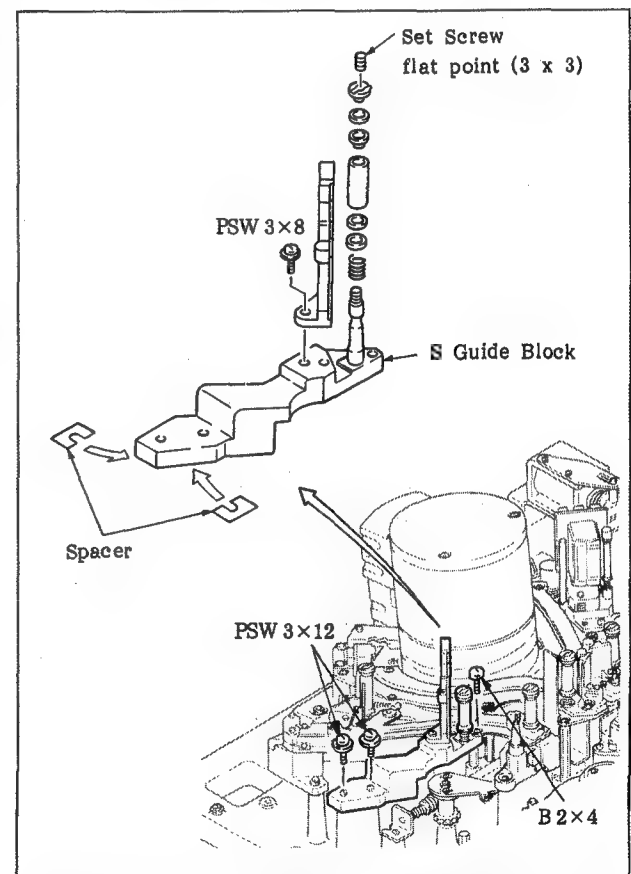
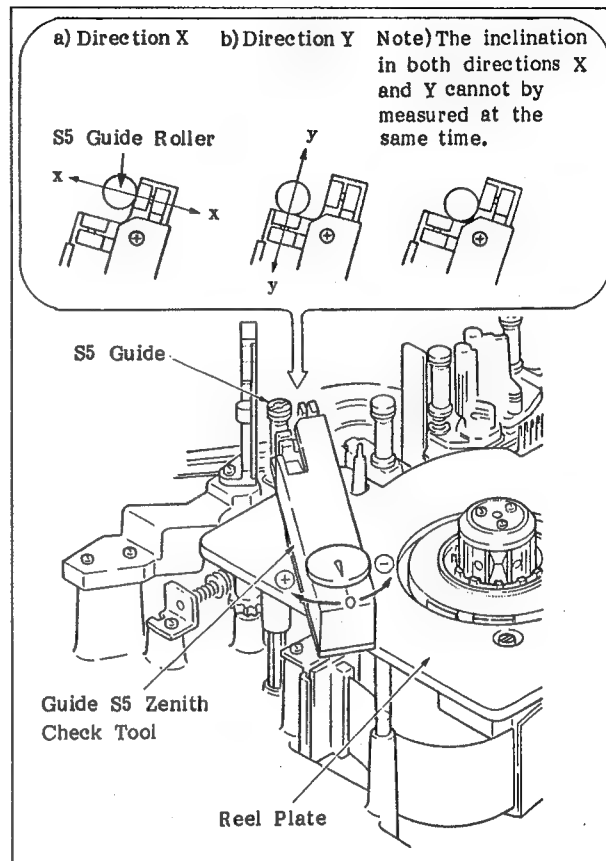

Fig. 6-46-2 Replacement of the S Guide Block
Fig. 6-47 Adjustment of the Inclination of the S5 Guide Roller
3. Replace the S guide block by referring to Figure 6-46-2. (Replacement can be made easily, so the detailed procedure will not be explained here.)
4. Check that the movement of the pointer of the dial gauge in both directions X and Y meets the following specification when the inclination of the S5 guide roller is measured by the guide S5 zenith check tool as shown in Figure 6-47.
5. If the specification is not met, loosen the screws shown in Figure 6-47 by two or three turns and insert the spacer as shown in Figure 6-46-2 and again tighten the two screws firmly, and then check the inclination in step 4.